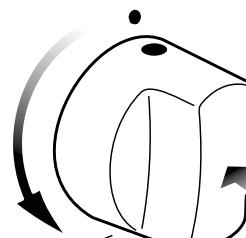

Fig. 3.2
- 1) Lightly press and turn the knob anti-clockwise, and position the knob indicator to the symbol  printed on the control panel (fig. 3.2).